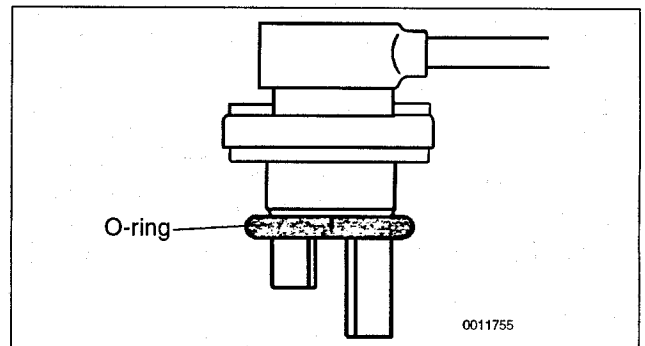

Fig. 7. O-ring correctly installed on vehicle speed sender.
3. On installation, replace O-ring and coat with oil (90W). See Fig. 7.